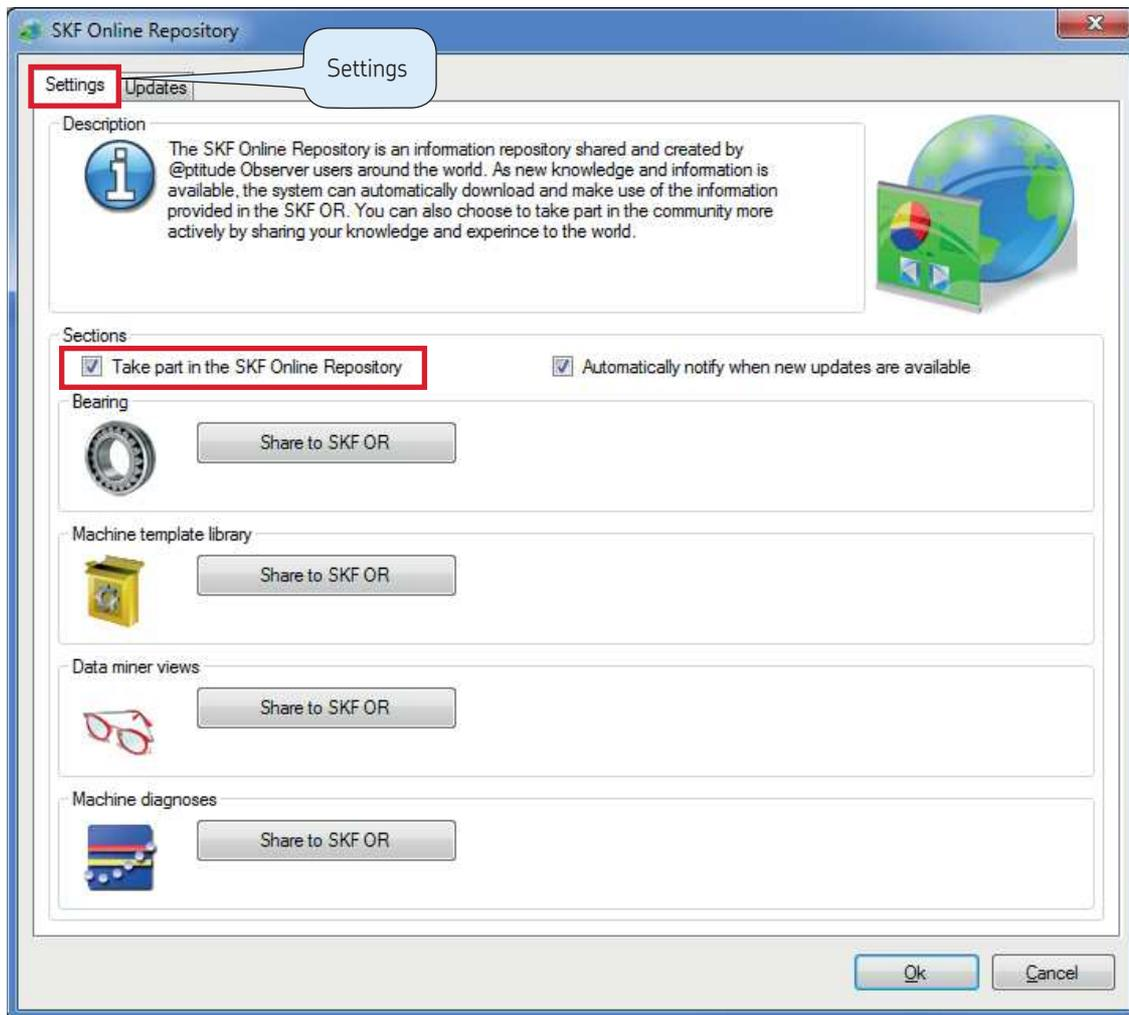
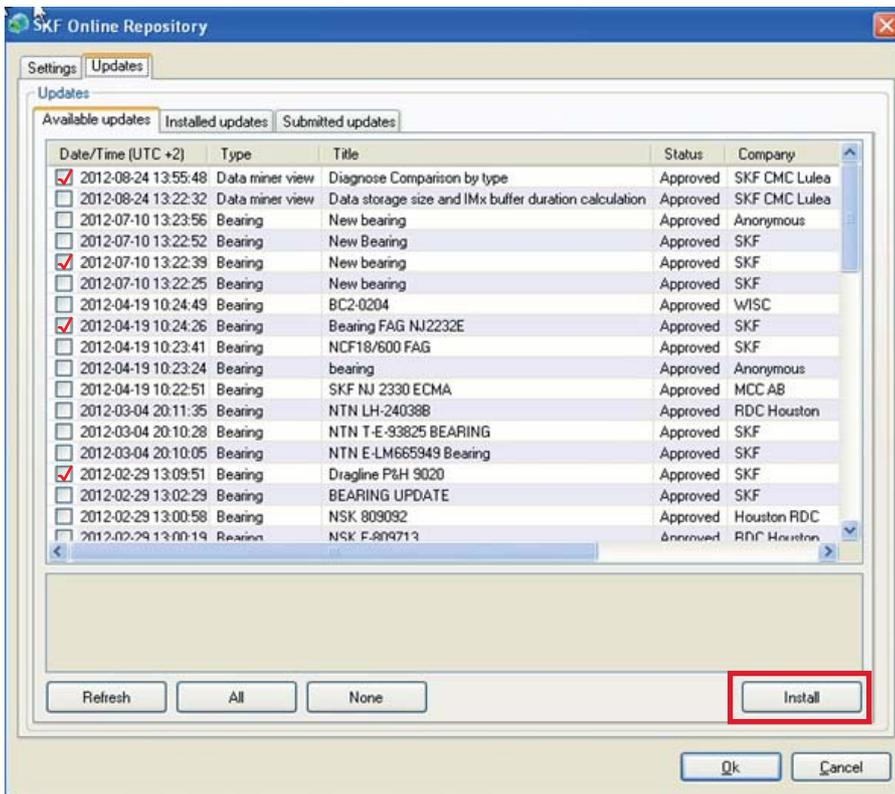

Fig. 17. SKF @ptitude Observer Online Repository main window.
Fig. 18. An example of available updates to download from the SKF OR.
- **Take part in the SKF Online Repository** – Configures the system to be able to send and receive data from the SKF OR (if checked), see "Sections" in fig. 17.
- **Receive automatic notifications when new updates are available** – Enables the system to automatically check the SKF OR if there are any new updates available when the SKF @ptitude Observer system starts, see "Sections" in fig. 17. Fig. 18 shows available updates to download. Check the updates that you would like to install in fig. 18 and click the **Install** button.